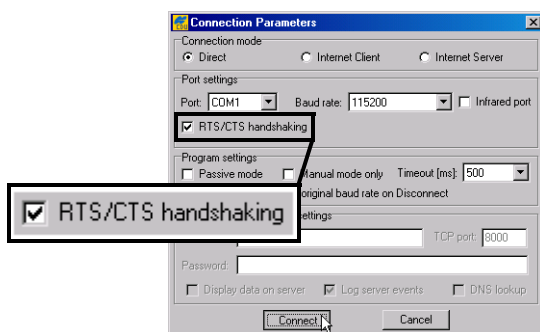

Figure 5-13. Connection Parameters – RTS/CTS Handshaking
- On the *Connection Parameters* dialog box, enable *RTS/CTS handshaking* (Figure 5-13).